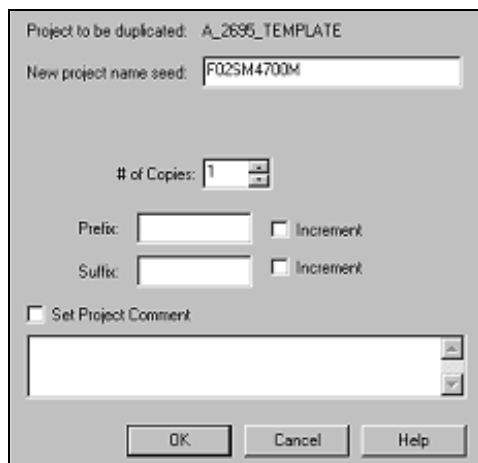

Figure 2 Clone Project Window
22.8. Set up the Clone Project window as follows (See Figure 2).